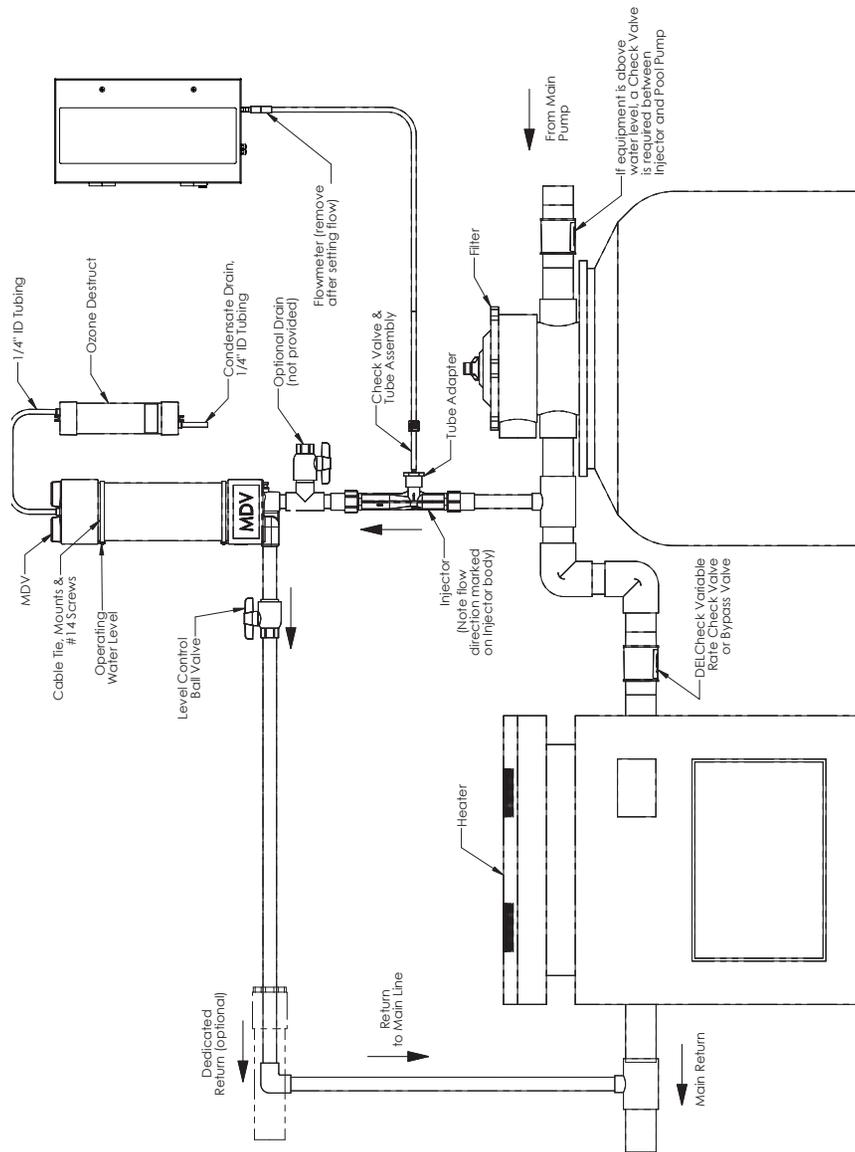

Figure 1: MDV and EC-10, E-20, and EC-40 Installation
SECTION 2. Installation (refer to Figure 1)
2. Mount the MDV vertically as shown in Figure 1 to a solid surface (i.e. fence, wall, post) using the (2) cable ties, (4) cable tie mounts, and (4) screws included. Use a pair of pliers to tighten and secure the cable tie. If trimming away excess, fold tab over to avoid the sharp edge. To avoid discoloration, mount in an area out of direct sunlight.
3. Mount the (GAC) Cartridge vertically to a flat surface using (2) #6 screws.
4. Install By-Pass plumbing as shown in Figure 1. Use the appropriate By Pass Valve based on your pump type: